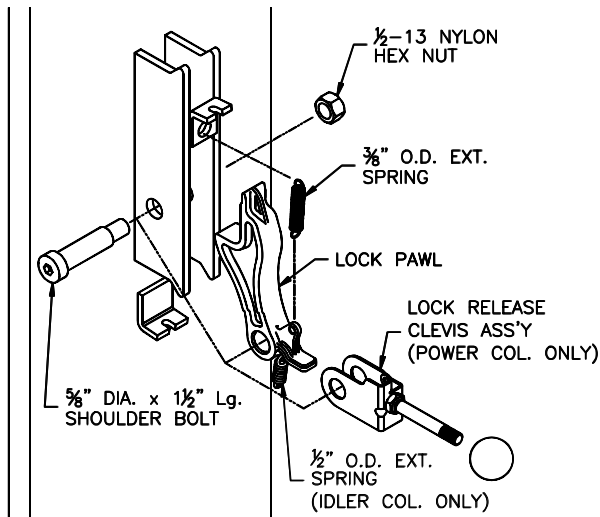

Fig 6 – Locking Pawl Assembly
- 16) Install Power Column locking pawl and lock release clevis with 5/8" diameter x 1 1/2" lg shoulder bolt and 1/2"-13 nylon lock nut, **Fig. 6**. Attach 3/8" O.D. extension spring to upper hole in locking pawl and other end to hole in bracket welded to column.
- 17) Attach 1/2" O.D. extension spring to hole located on bottom side of Idler Column lock pawl and install using 5/8" shoulder bolt and lock nut, **Fig 6**. Attach 3/8" O.D. spring the same as Power side.